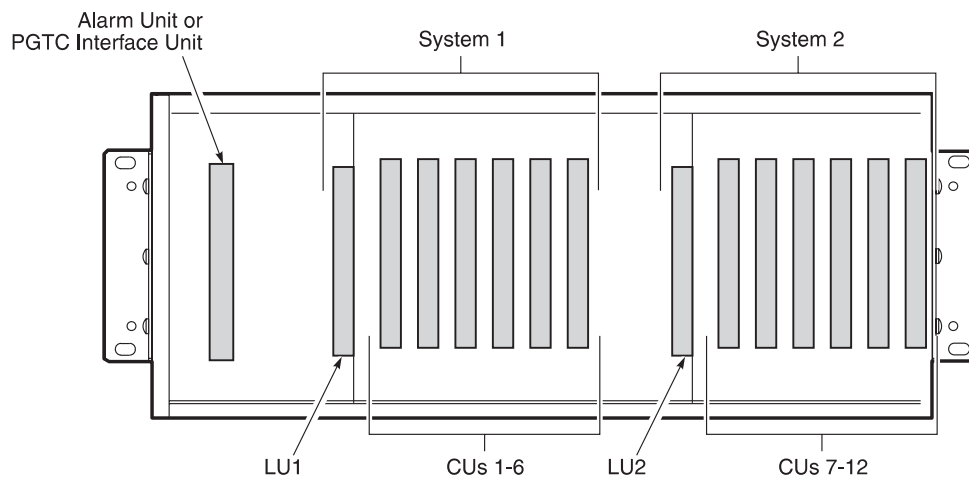

Figure 1. FCS-718 COT Shelf (Card-side, Front View)
1.1 The PairGain® PG-Flex™ FCS-718 List 2 19-inch Central Office Terminal (COT) Shelf (Figure 1) supports:
4.2 Table 3 lists the FCS-718 List 2 connectors (Figure 1) and where each is described in this practice.